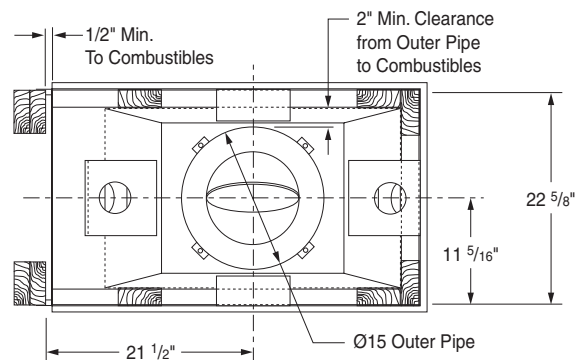

Figure 5 - Framing Clearances
1. Frame opening for fireplace using dimensions shown in Figures 5, 7 and 8 on pages 5 and 6 depending on your installation.